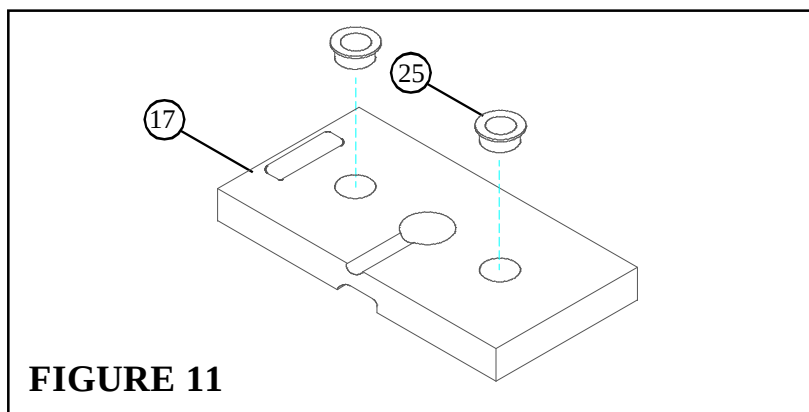

FIGURE 11
- Snap two WEIGHT PLATE BUSHINGS (25) into the top of all twenty WEIGHT PLATES (17) as shown in FIGURE 11.